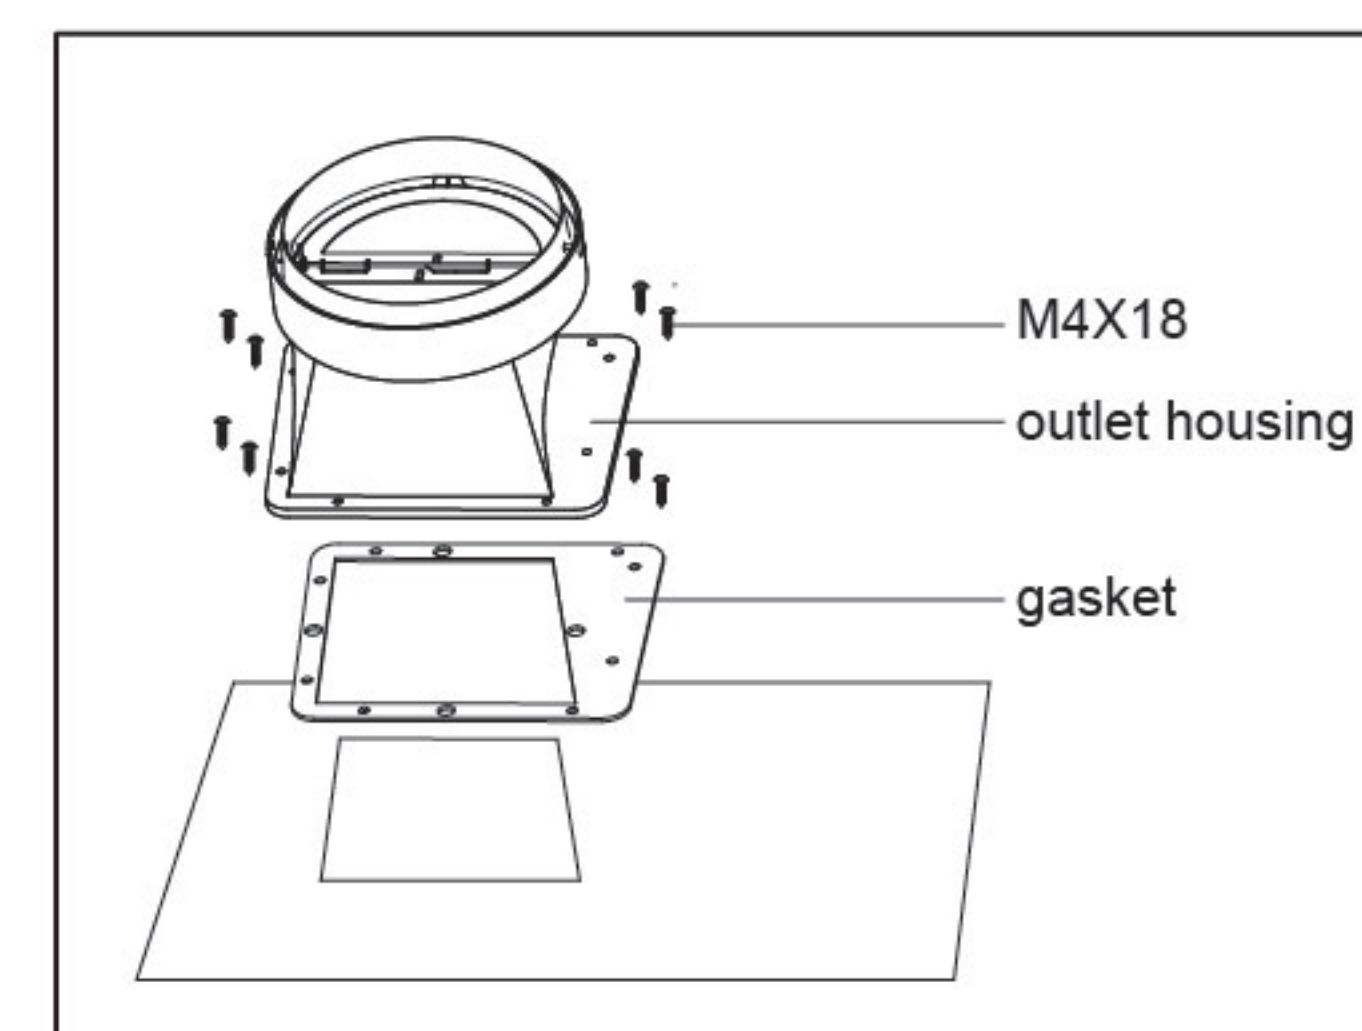

fig10
- Place the outlet housing and the sealing rings at the air outlet of the main body, and use 8 screws (M4 \times 18mm) to fix the outlet housing and the sealing rings. (fig10)